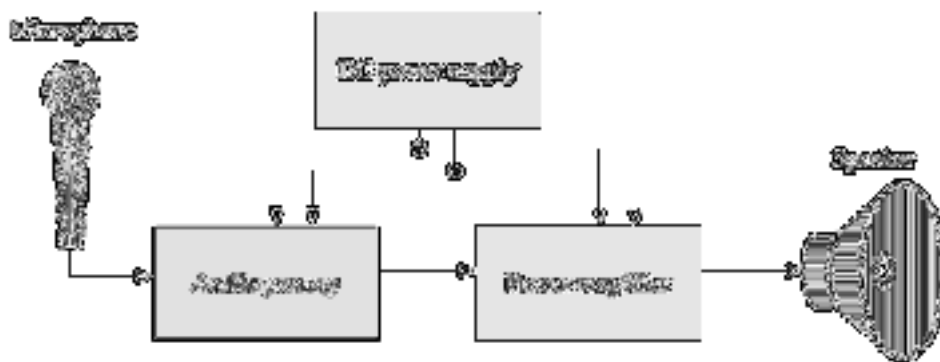

Figure 2
5. A two-stage audio voltage preamplifier is shown in Figure 2. The first stage is a common-emitter pnp with voltage-divider bias, and the second stage is a common-emitter npn with voltage-divider bias. It has been decided that the amplifier should operate from 30 V dc to get a large enough signal voltage swing to provide a maximum of 6 W to the speaker. Because small IC regulators such as the 78xx and 79xx series are not available above 24 V, dual {15 V dc supplies are used in this particular system instead of a single supply. The operation is essentially the same as if a single +30 V dc source had been used. The potentiometer at the output provides gain adjustment for volume control. The input to the first stage is from the microphone, and the output of the second stage will drive a power amplifier. The power amplifier will drive the speaker. The preamp is to operate with a peak input signal range of from 25 mV to 50 mV. The minimum range of voltage gain adjustment is from 90 to 170.